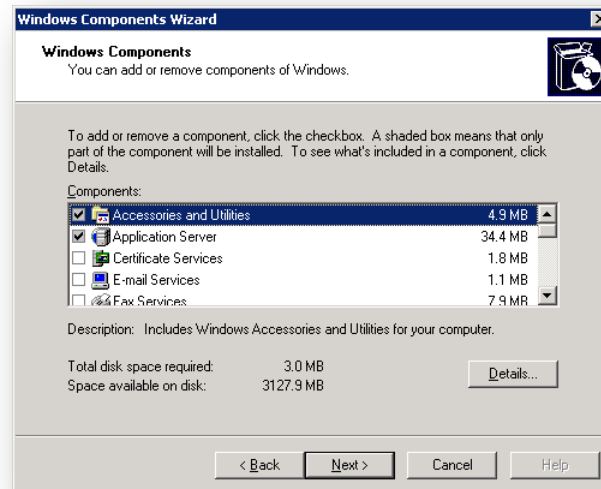

Figure 39 – Windows Components Wizard
1. Click on the Start Menu and click on “Server Manager” to open the Server Manager window. See Figure 39.